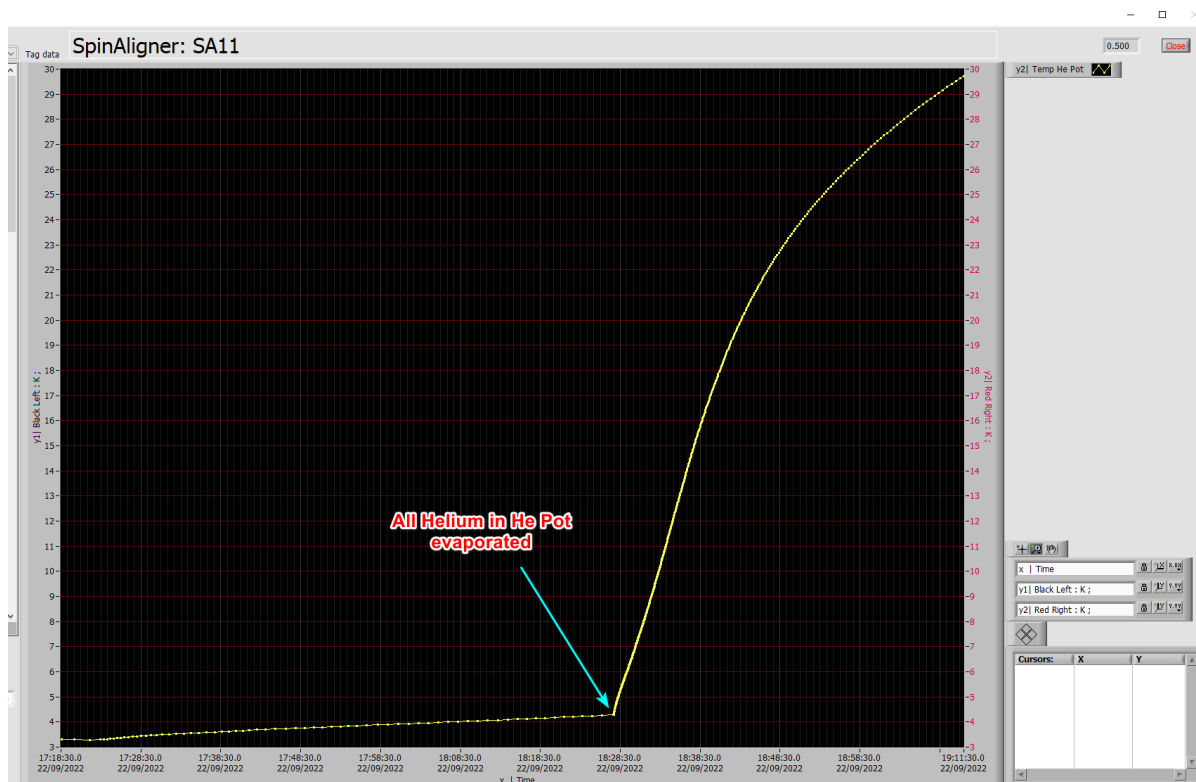

Figure 36 Helium Pot temperature after Sumitomo Compressor has been turned off. Time span is approximately 2 hours.
8. Wait until most of the liquid Helium has evaporated (Figure 36) from Helium Pot before proceeding to the next step. We recommend leaving V4 open so all Helium is pumped/flushed, but you may choose to close V4 and preserve most of the Helium.